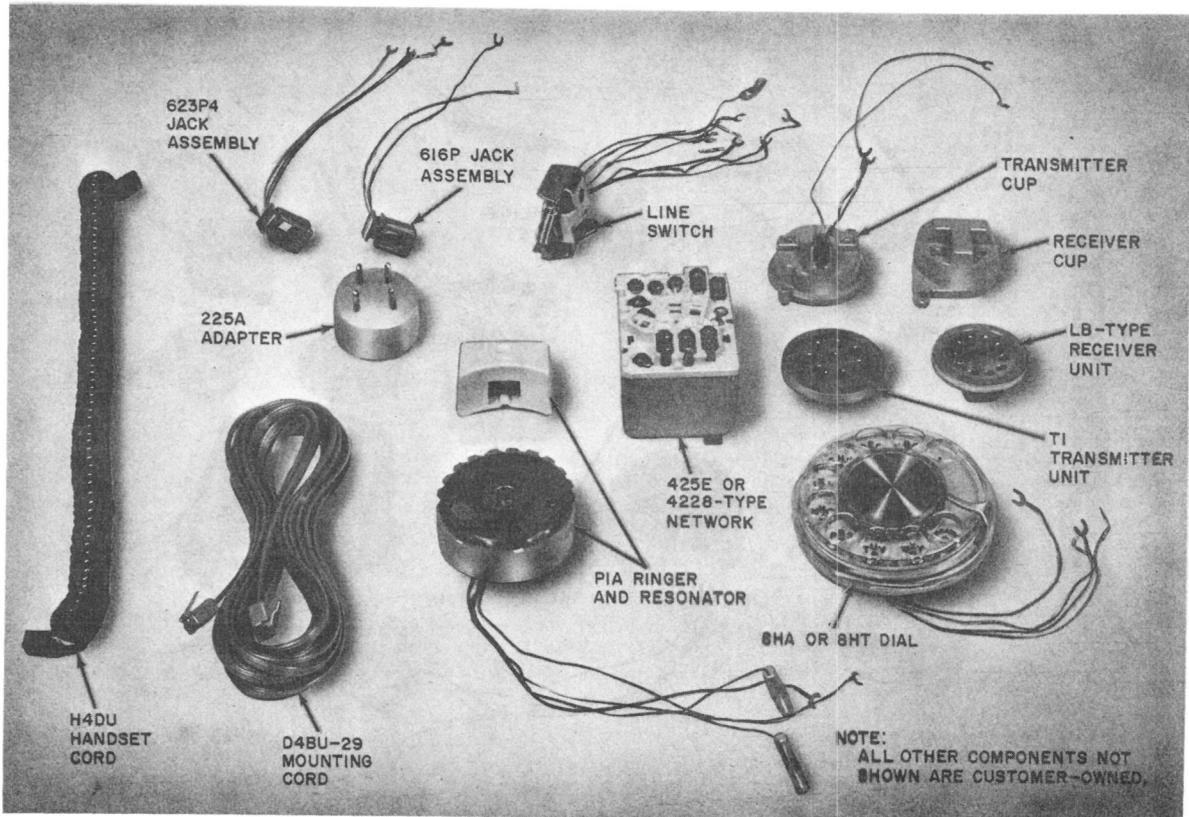

Fig. 8—Telephone Company-Owned Components (Set Equipped with a Rotary Dial)
**4.01** When it is desired to discontinue telephone service of the 930-type, 2930-type, and 2931B DESIGN LINE telephone sets, remove the telephone company-owned components that can be easily removed. Refer to Fig. 8 and 9 for identification of company-owned components and proceed as follows: